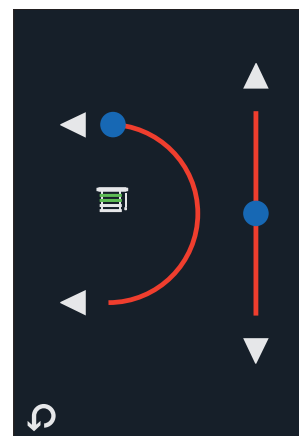

Fig. 10c 'Level + Tilt'
- translatory + rotary movement "Level + Tilt" (Fig. 10c)